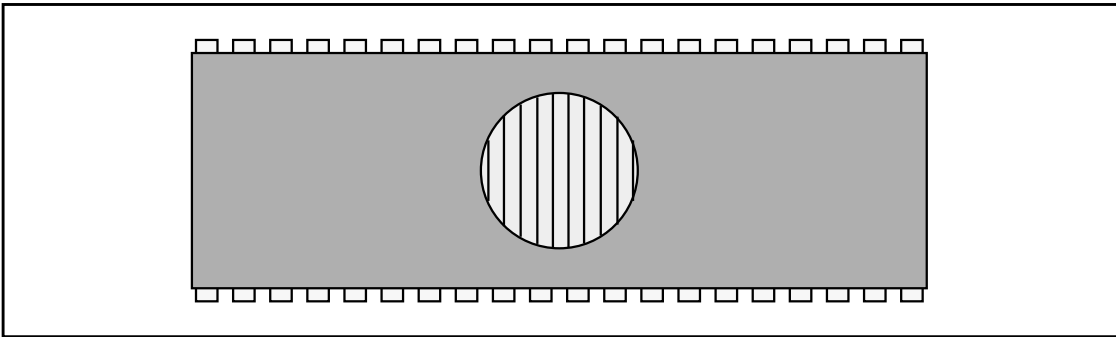

Figure 7-2. An EPROM chip showing its erasing window
- **EPROM (erasable programmable read-only memory)** This type of ROM, pronounced "e-prom," is erasable and can be reprogrammed. Unlike a PROM chip that cannot be reused and can only be thrown out when it becomes obsolete, an EPROM chip can be reprogrammed and reused. As shown in Figure 7-2, an EPROM has a quartz window on the face of the chip that exposes the chip's interior circuits. When ultraviolet (UV) light is shined through this window, it causes a chemical reaction that erases the EPROM. In order to reprogram an EPROM, it must be removed from the computer, erased with UV light, and then reprogrammed on a PROM programmer.